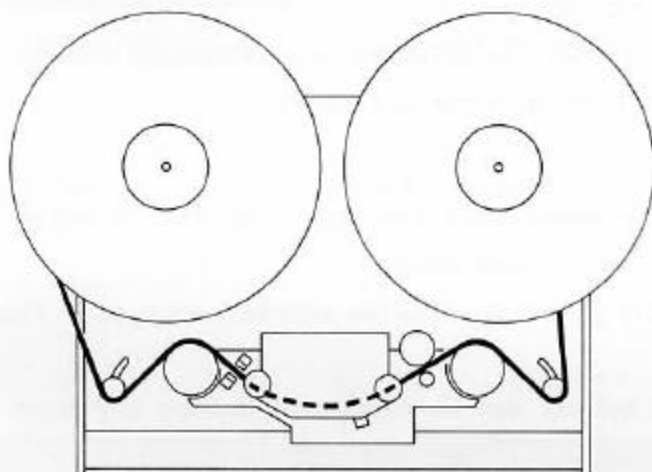

Fig. 5.1
Thread the tape as shown in Fig. 5.1 making sure the tape passes through the Tape Presence Sensor (3), and that the Head Shield Gate (8) is in the lowered position.